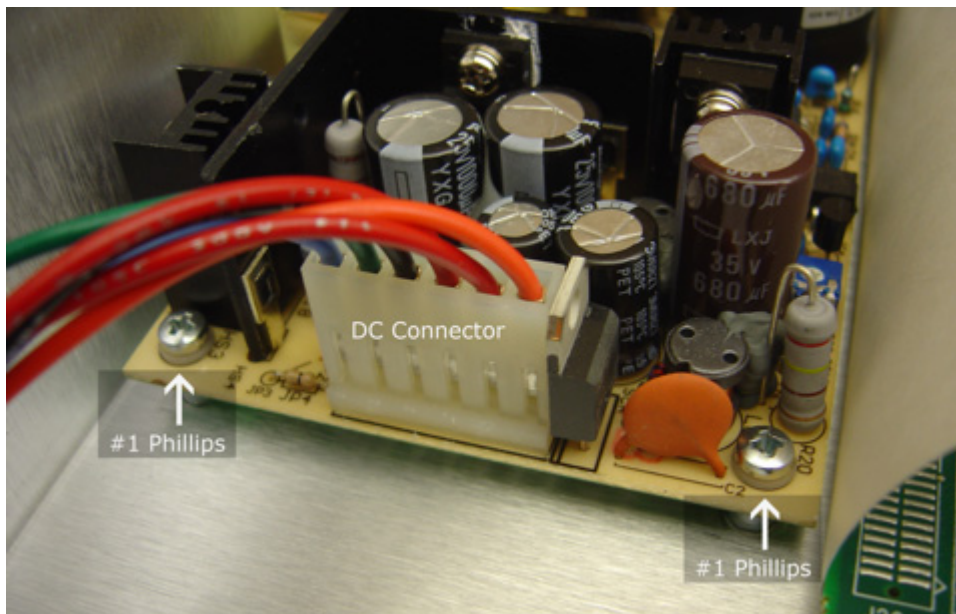
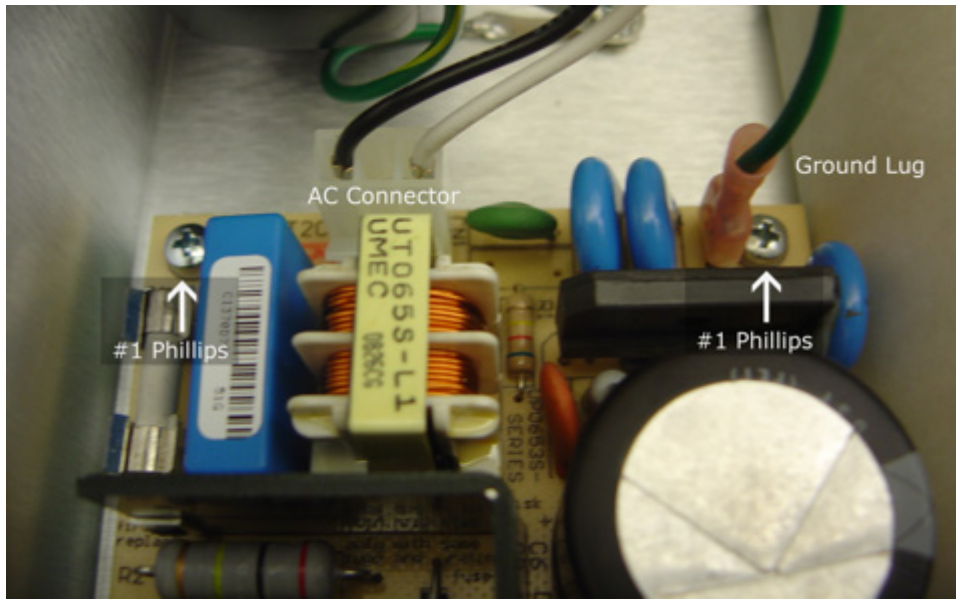

Figure 5 DC Connector and Attaching Screws
Figure 6 AC Connector and Attaching Screws
6. Remove the four Phillips head screws, shown in Figure 5 and Figure 6, that hold the power supply module in place.